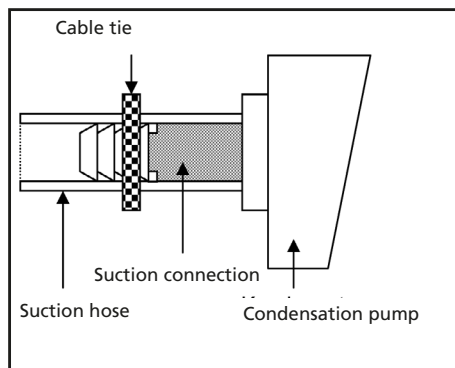

Fig. 47: Fix the suction hose in place
- Push the suction hose as far as the stop and fix in place with a cable tie to prevent the pump from running dry (Fig. 47).